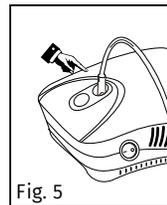

Fig. 5
7. Connect the other end of the air tube to the tube connector on the nebulizer unit by lightly turning it (Figure 5).